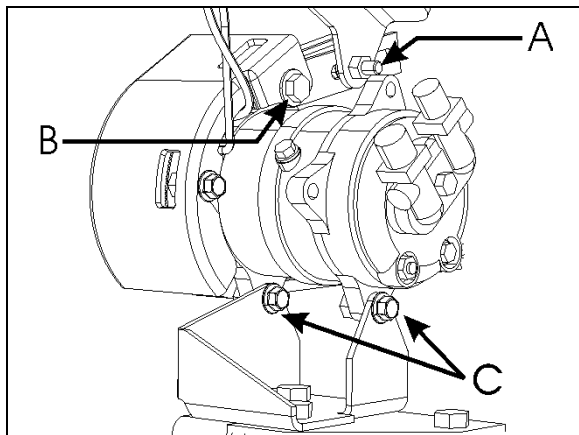

FIGURE 37: COMPRESSOR REMOVAL OR INSTALLATION 22349
- \* Slacken bolts A (Refer to figure 37).
- \* Remove bolts B & C (Refer to figure 37).